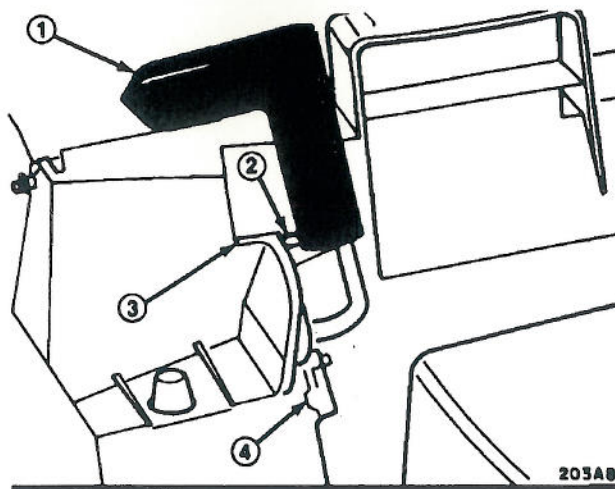

Figure 11
4. Pull up chute handle until handle pin clears the housing latch. Then move handle rearward until pin locks in notch at rear of bag latch (Fig. 11). The chute door in mower housing is now open, and mower is ready to bag grass.